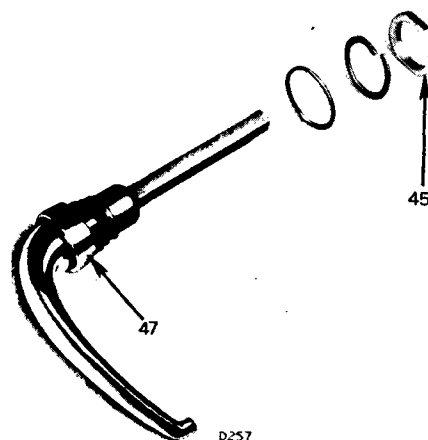

Fig. 33. Door locking handle (Spitfire 4)
- (c) (For passengers door only). Unscrew the large nut (45) Fig. 33, which is accessible from inside the door.